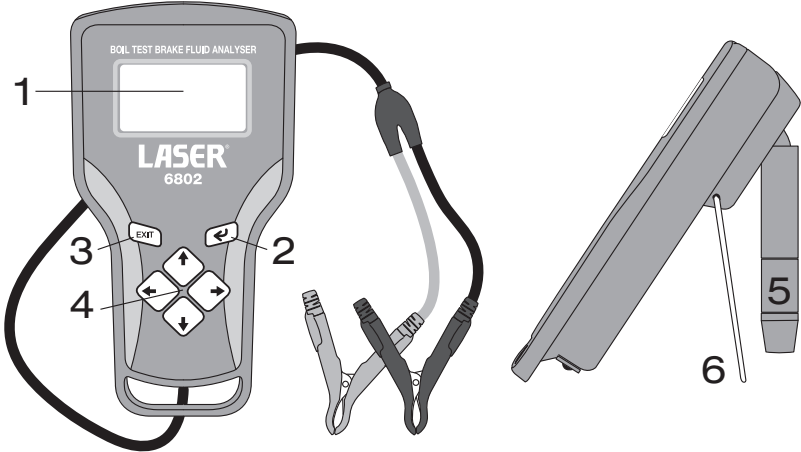

Fig 2
- Refer to Figure 2: pull back the metal stand (6) and set up the instrument on a flat, level and secure workplace, within reach of the vehicle battery, or another suitable 12V power source.
- Refer to Figure 2: use arrow keys (4) to select grade of brake fluid being tested (DOT 4, DOT5.1, etc). Refer to Figure 4B.